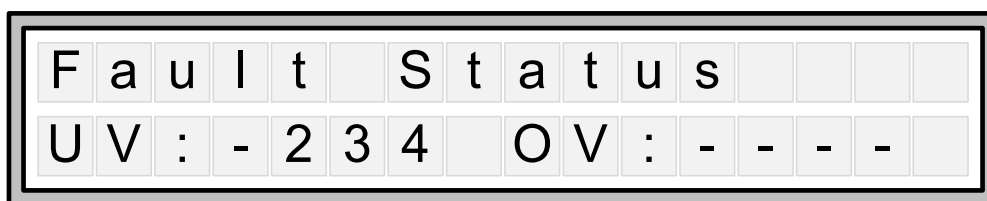

Figure 4-11 Example1 - LCD Display when J6 Removed
The 4 digits indicate the rail failure status (under-voltage=UV or over-voltage=OV). A dash '-' indicates that the rail is within defined operating limits ($\pm 7.5\%$ of nominal voltage). If a failure occurs on any rail, the rail number will be displayed next to the UV or OV indicator. For example, if you remove jumper J6, then you will remove power to regulators 2 through 4. This should cause an under-voltage (UV) fault on rails 2 through 4. In that case, the display should look like this: (see Figure 4-11)